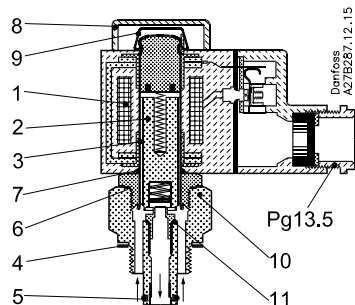

Fig. 1,
EVM (NC/NO), fig. 1 and 2
EVM (NC), fig. 1